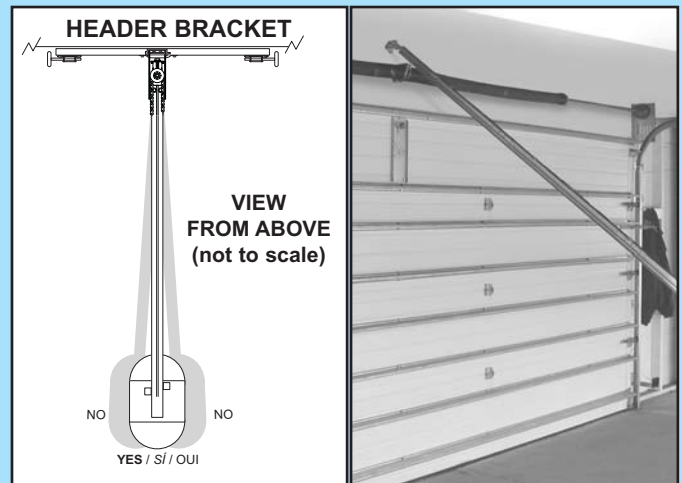

FIG. 2-4 Position assembly and align.
- Position assembled rail on wall next to header bracket (**Fig. 2-4**).
NOTE: Before final attachment to ceiling, insure that assembly is in proper alignment (**Fig. 2-4**).